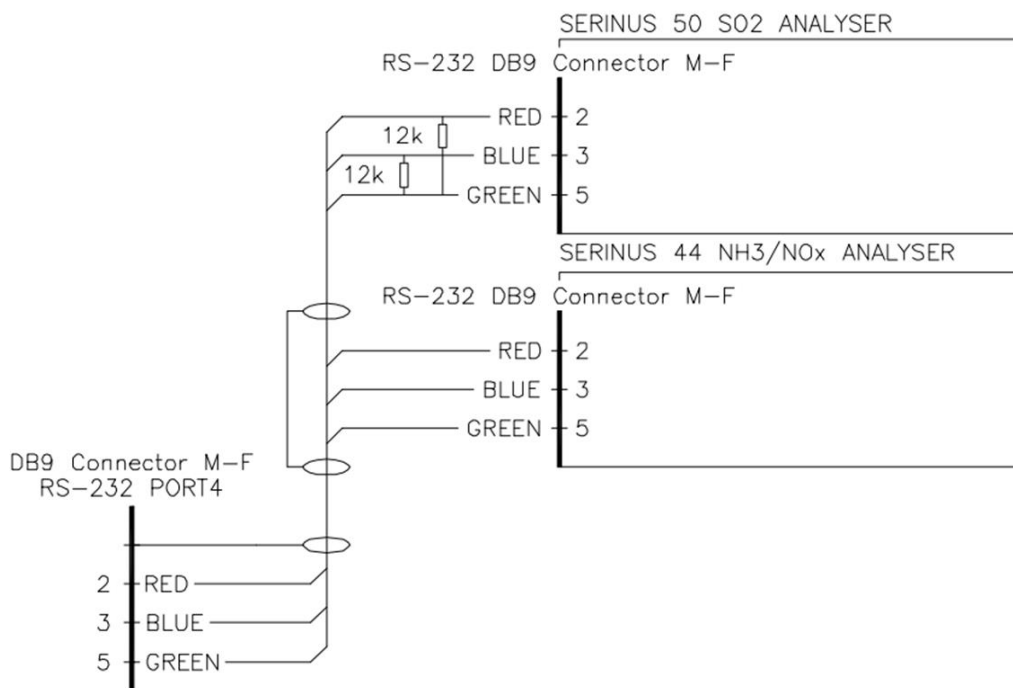

Figure 11 – Multidrop RS232 Cable Example
- A 12K ohm terminating resistor should be placed on the last connector of the cable (connect from pin 2 to pin 5 and from pin 3 to pin 5 – refer to Figure 11).